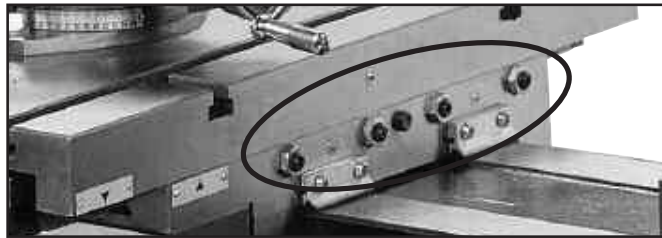

Figure 4.9 Granite Carriage Gib Adjustment Screws (Quantity 4)
I. Carriage Gib Adjustment Screws - These screws press a small metal plate (the gib) to the ways of the bed, increasing or decreasing the tension when moving the cross-slide assembly. (Figure 4.9)